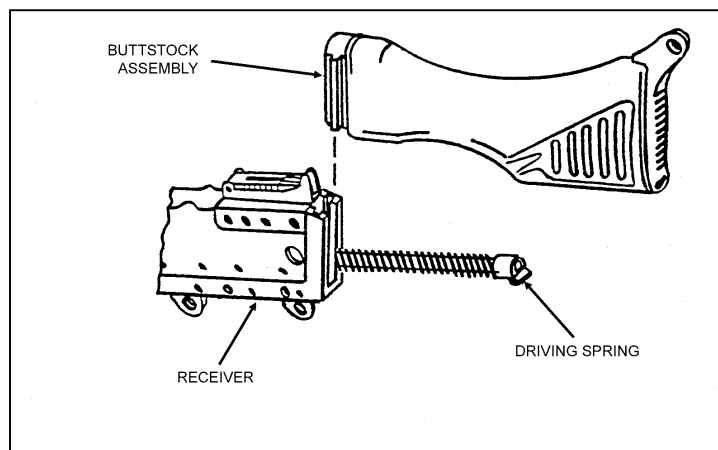

Figure 3-27. Replacement of the driving spring rod assembly.
e. **Replacing the Driving Spring Rod Assembly.** Insert the driving spring rod assembly into the receiver, sliding it all the way forward against the recess in the rear of the operating rod. Push in and lower the driving spring rod assembly to engage the retaining stud into the hole located on the bottom of the receiver (Figure 3-27).